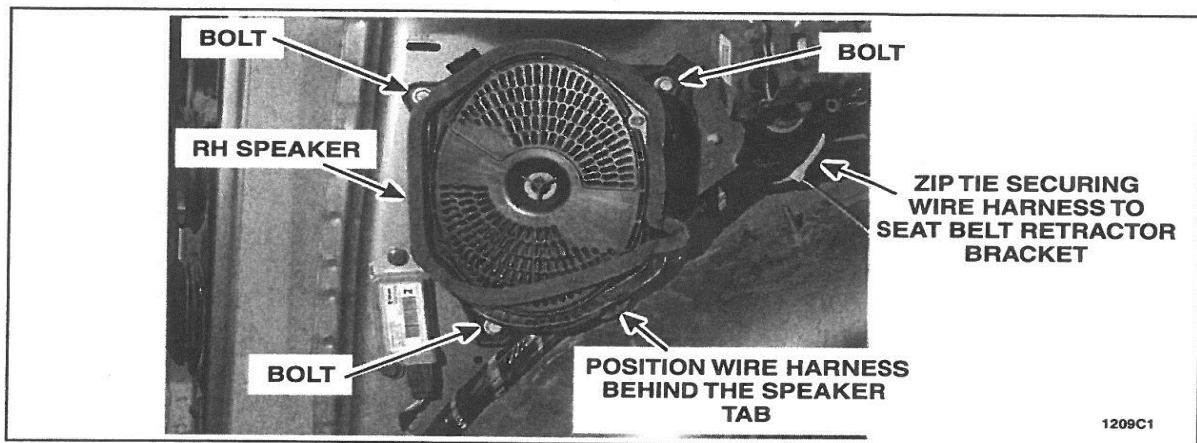

FIGURE 4
10. Position aside the RH wheel well wire harness. See Figure 4.